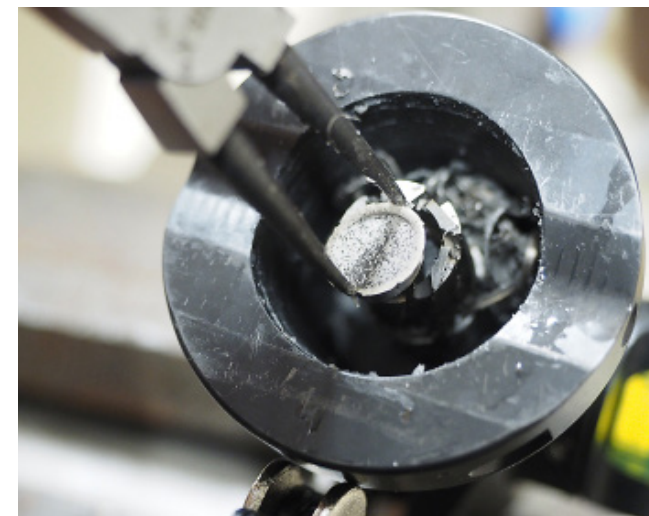

Fig. 9.2 **IMPORTANT!** REMOVE the slug and swarf with pliers.
9.2 Inspect inside the cutter assembly for the presence of a slug. If present, REMOVE the slug from the cutter with pliers (Fig 9.2).